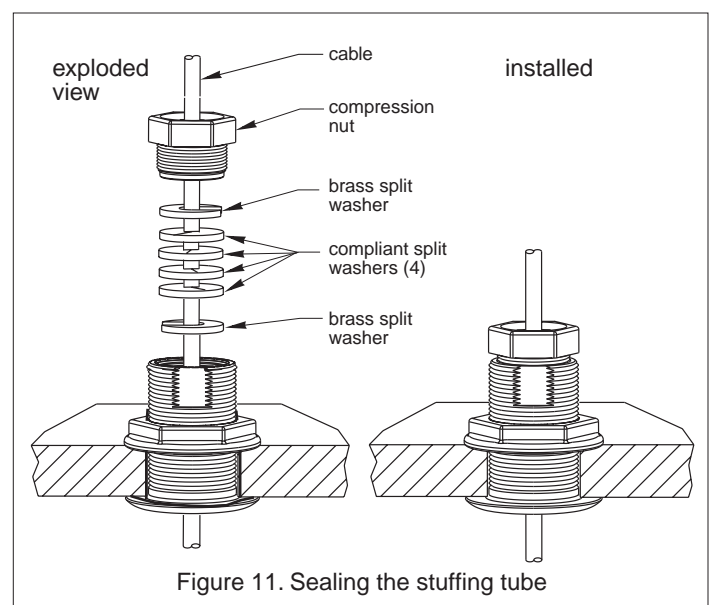

Figure 11. Sealing the stuffing tube
- To seal the cable inside the stuffing tube, slide the four compliant split washers around the cable. Place one brass split washer above the compliant washers and one below them. *Be sure* to stagger all the splits. Seat the stack securely against the machined lip inside the stuffing tube (see Figure 11).